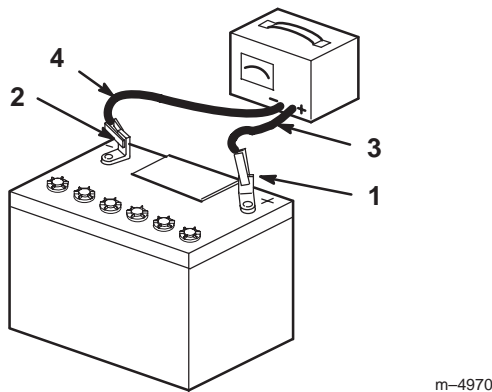

Figure 56
- When the battery is fully charged, unplug the charger from the electrical outlet, then disconnect the charger leads from the battery posts (Fig. 56).